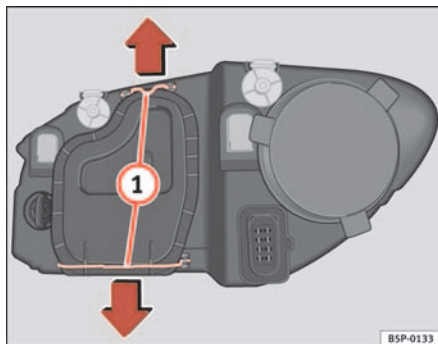

Fig. 156 Dipped head-lights
- Remove the loops ⇒ fig. 156 ① in the direction of the arrow and remove the cover.